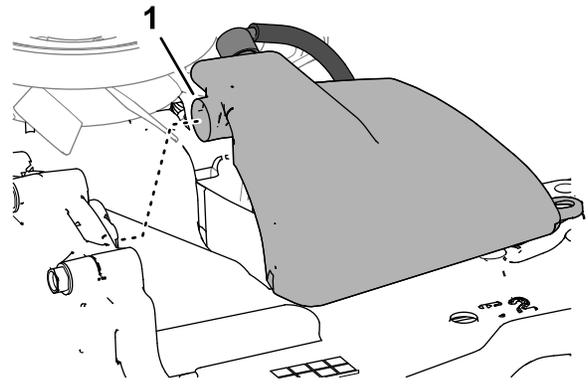

Figure 59
3. Remove the expansion tank from the transaxle (Figure 59).